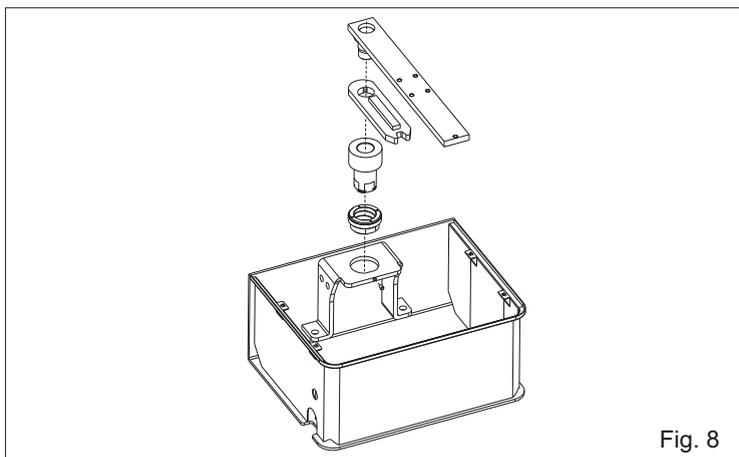

Fig. 8
**2.4.** introduce the buckle of creeping in the box and fix it with the special screws (Fig. 8).
**2.5.** Insert the units as in Fig. 8.